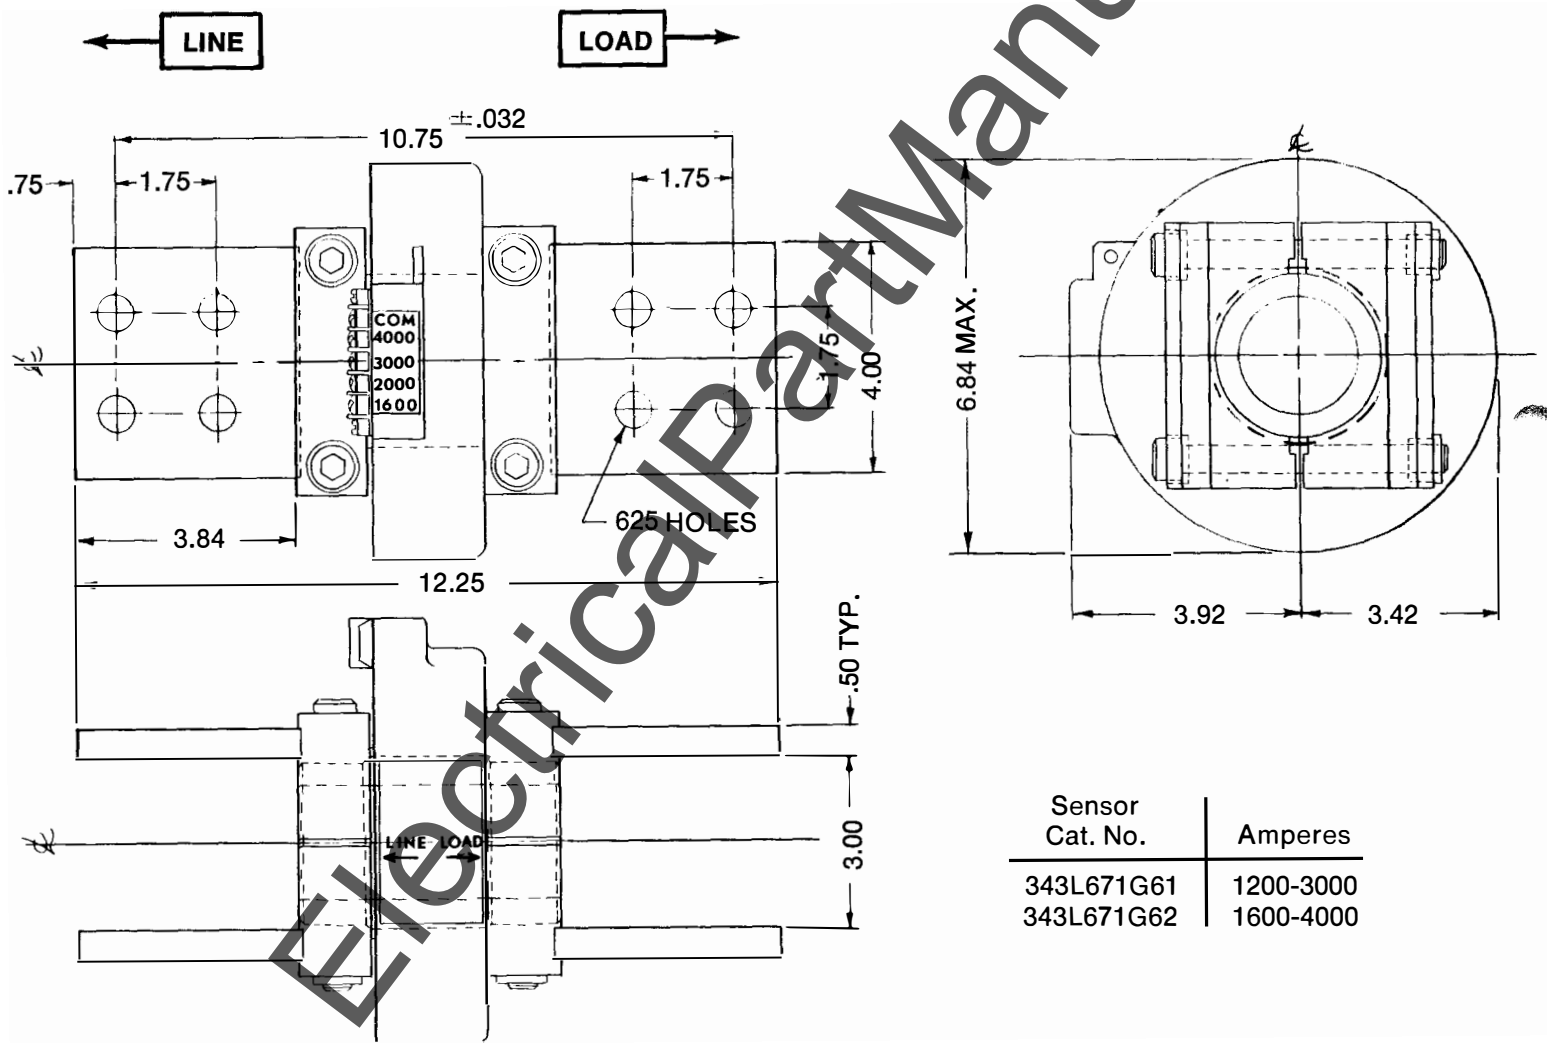

Fig. 21 — Outline of SST 4th-wire neutral sensors (from Outline Dwg. 568B227).
1. Mount the neutral sensor in the outgoing neutral lead, normally in the equipment's bus or cable compartment. Be sure to observe the sensor's **LINE & LOAD** directional markings. See Fig. 21 for the sensor's bar drilling plan. Check to insure that the neutral and phase sensors match, i.e., have the same ampere range.